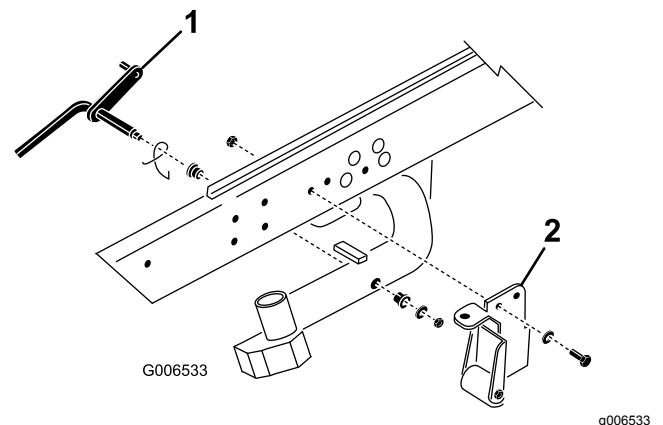

Figure 3
1. Remove the locknut and the washer securing the pivot rod to the number 2 lift arm (Figure 3). Remove the pivot rod and spring from the
Note: The tipper bracket with the roller and the tipper support brackets are not required when operating the DPA cutting units (Figure 3).